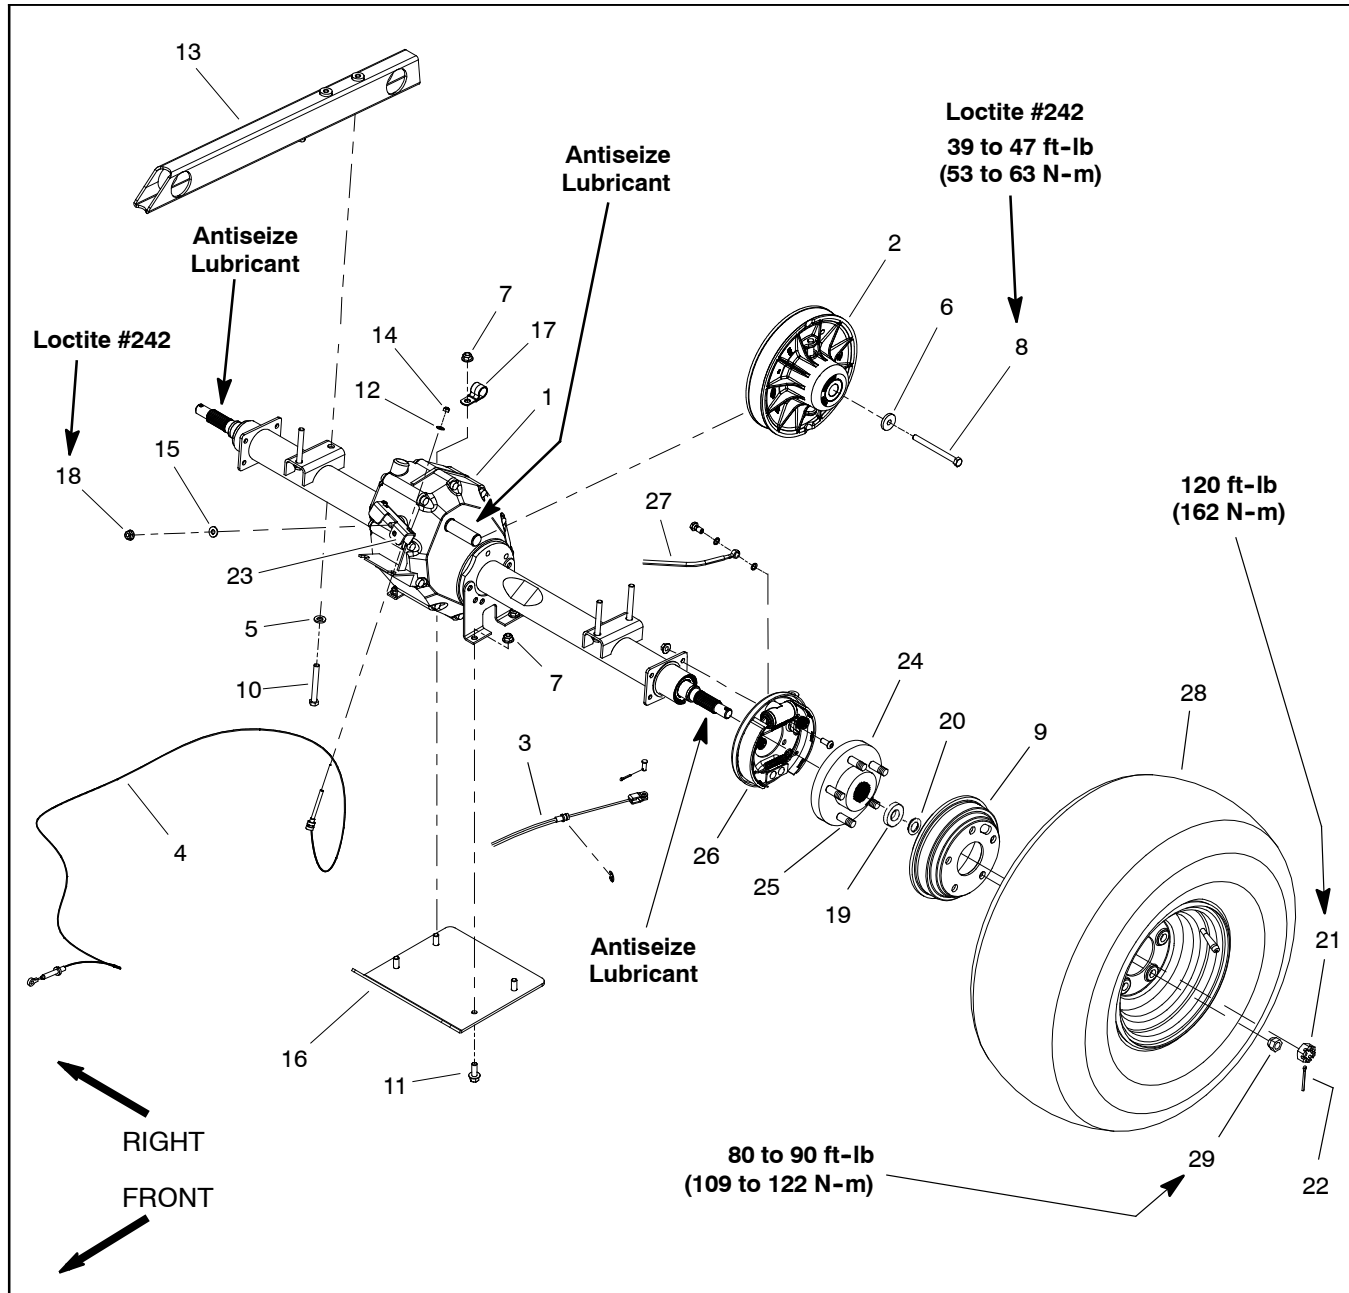

Figure 15
Removal (Fig. 15)
- D. Remove cap screw (item 11 in Fig. 15) and flange nut (item 7 in Fig. 15) that secure r-clamp (item 17 in Fig. 15) to skid plate.
Installation (Fig. 15)